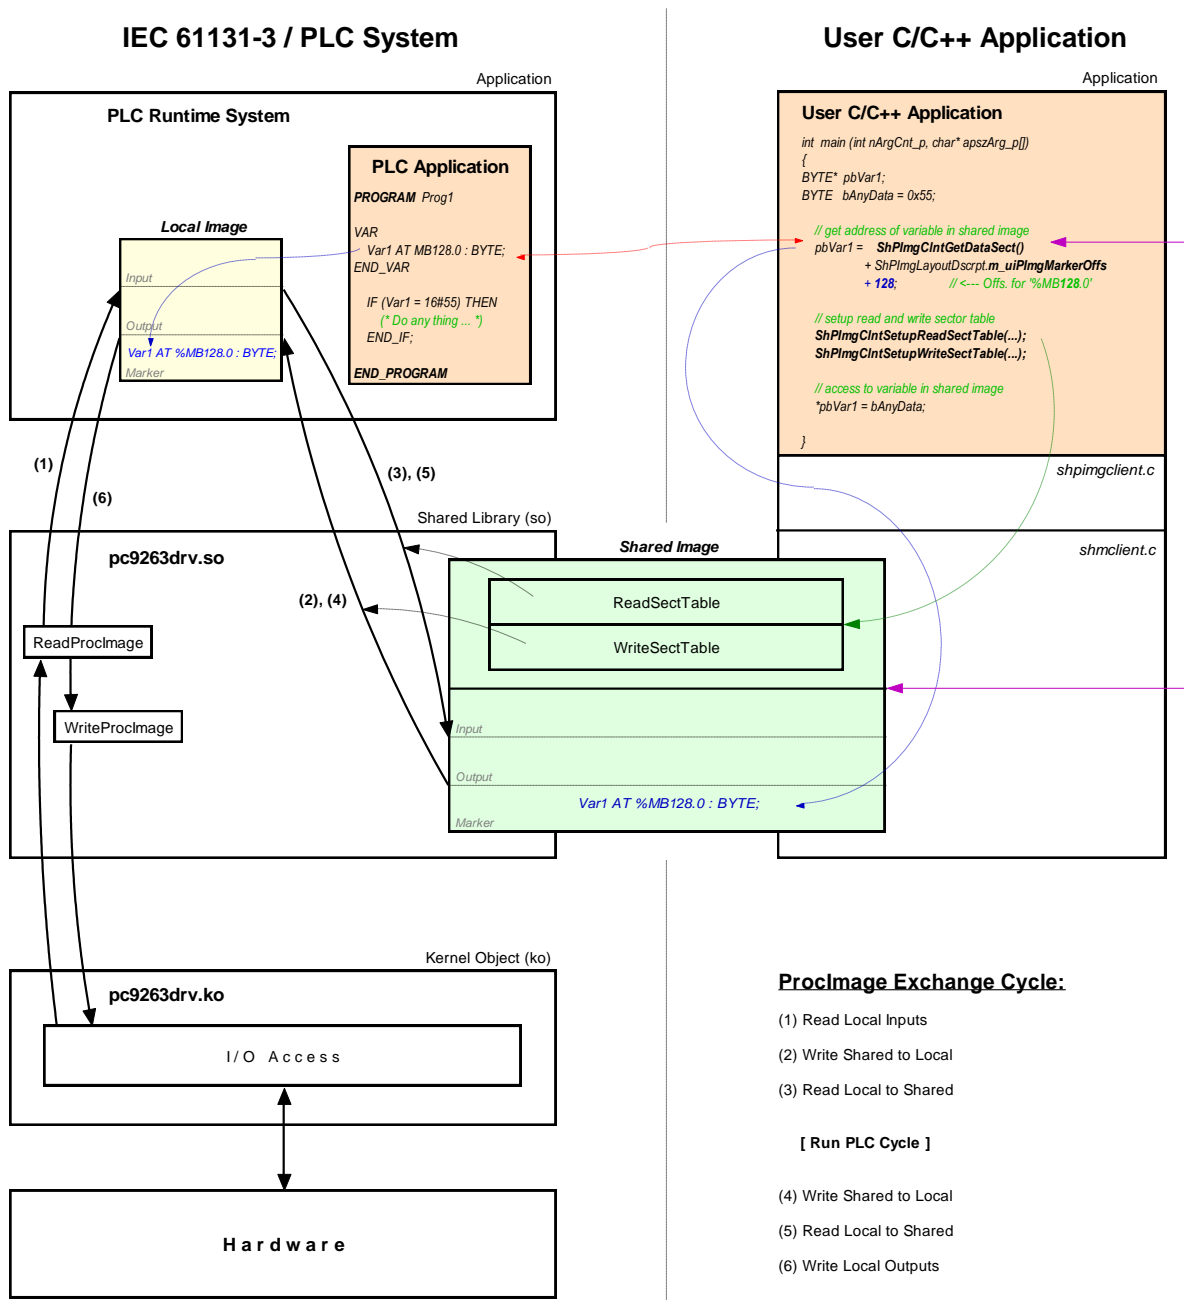

Figure 29: Overview of the shared process image
Not all variables are utilizable via the shared process image within a C/C++ application. Only those directly addressed variables that the PLC program generates within the process image. As shown in Figure 29, two separate process images are used for the data exchange with an external application inside of the PLC runtime system. This is necessary to meet the IEC 61131-3 requirement that the initial PLC process image may not be modified during the entire execution of one PLC program cycle. Thereby, the PLC program always operates with the internal process image that is locally generated within the PLC runtime system ("Local Image" in Figure 29). This is integrated within the PLC runtime system and is protected against direct accesses from the outside. On the contrary, the user-specific, external C/C++ application always uses the shared process image ("Shared Image" in Figure 29). This separation of two process images enables isolation between accesses to the PLC program and the external application. Those two in parallel and independently running processes now must only be synchronized for a short period of time to copy the process data.
An activation of option **"Share PLC process image"** within the PLC configuration enables data exchange with external applications (see section 7.4.1). Alternatively, entry *"EnableSharing="* can directly be set within section *"[Proclmg]"* of the configuration file *"/home/plc/bin/plc_core-9263.cfg"* (see section 7.4.3). The appropriate configuration setting is evaluated upon start of the PLC firmware. By activating option **"Share PLC process image"**, the PLC firmware creates a second process image as Shared Memory ("Shared Image" in Figure 29). Its task is to exchange data with external applications. Hereby, the PLC firmware functions as Server and the external, user-specific C/C++ application functions as Client.
Sections to read and write may comprise all sections of the entire process image – input, output as well as marker sections. This allows for example that a Client application writes data into the input section of the PLC process image and reads data from the output section. Figure 29 shows the sequence of single read and write operations. Prior to the execution of a PLC program cycle, the physical inputs are imported into the local process image of the PLC (1). Afterwards, all sections defined in *WriteSectorTable* are taken over from the shared process image into the local process image (2). By following this sequence, a Client application for example is able to overwrite the value of a physical input. This may be used for simulation purposes as well as for setting input data to constant values (*"Forcen"*). Similarly, prior to writing the process image onto the physical outputs (6), sections defined in *WriteSectorTable* are taken over from the shared process image into the local process image. (4). Thus, a Client application is able to overwrite output information generated by the PLC program.
As illustrated in Figure 29, the user-specific C/C++ application exclusively uses the API (Application Programming Interface) provided by the *shared process image client*. This API is declared in the